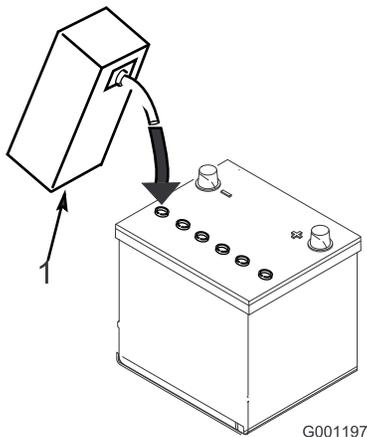

Figure 10
3. Carefully fill each cell with electrolyte until the plates are covered with about 6 mm (1/4 inch) of fluid (Figure 10).
4. Allow approximately 20 to 30 minutes for the electrolyte to soak into the plates. Refill as necessary to bring the electrolyte to within about 6 mm (1/4 inch) of the bottom of the fill well (Figure 10).